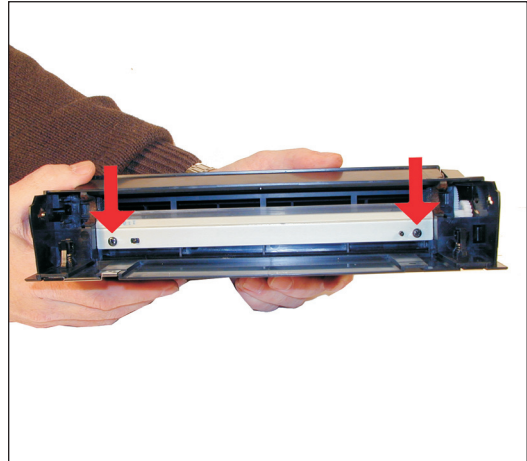

Figure 20
13) Remove the two screws and doctor blade from the hopper. See Figure 20